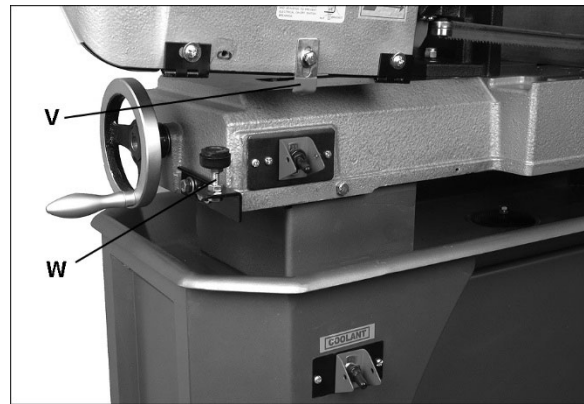

Figure 8-15: shut-off adjustment
- If saw completes cut but blade continues moving, adjust trip tab (V, Figure 8-15) downward.
- If blade stops before cut is complete, adjust trip tab (V) upward.
- If blade stops descending and continues running without completing the cut, turn stop bolt (W) down.